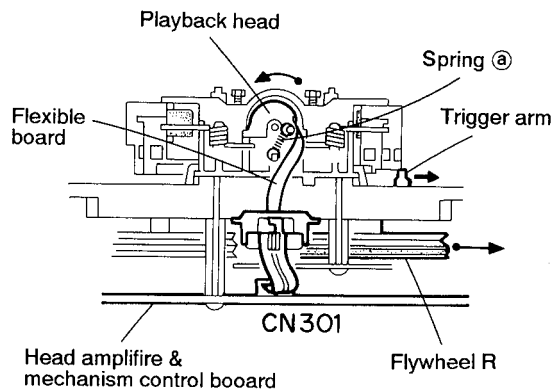
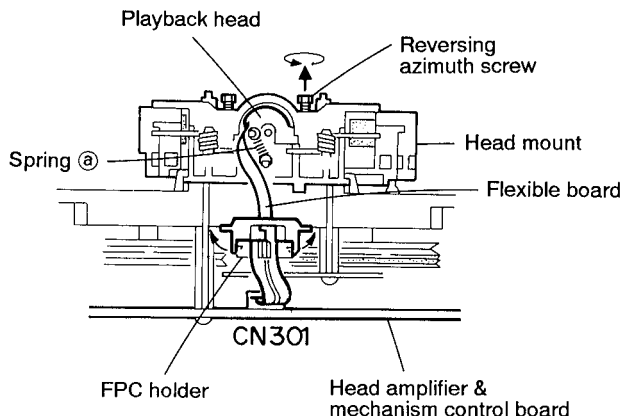

Fig.5-25 (Mechanism A side)
Fig.5-26 (Mechanism B side)
2. When the flywheel R is rotated in counterclockwise direction, the playback head will be turned in counterclockwise direction from the position in Fig. 5-25 to that in Fig. 5-26.
1. Reassemble the playback head from the front of the head mount to the position as shown in Fig. 5-26.
4. Attach the flexible P.C. board to the chassis base, and fix it with the FPC holder as shown in Fig. 5-26.